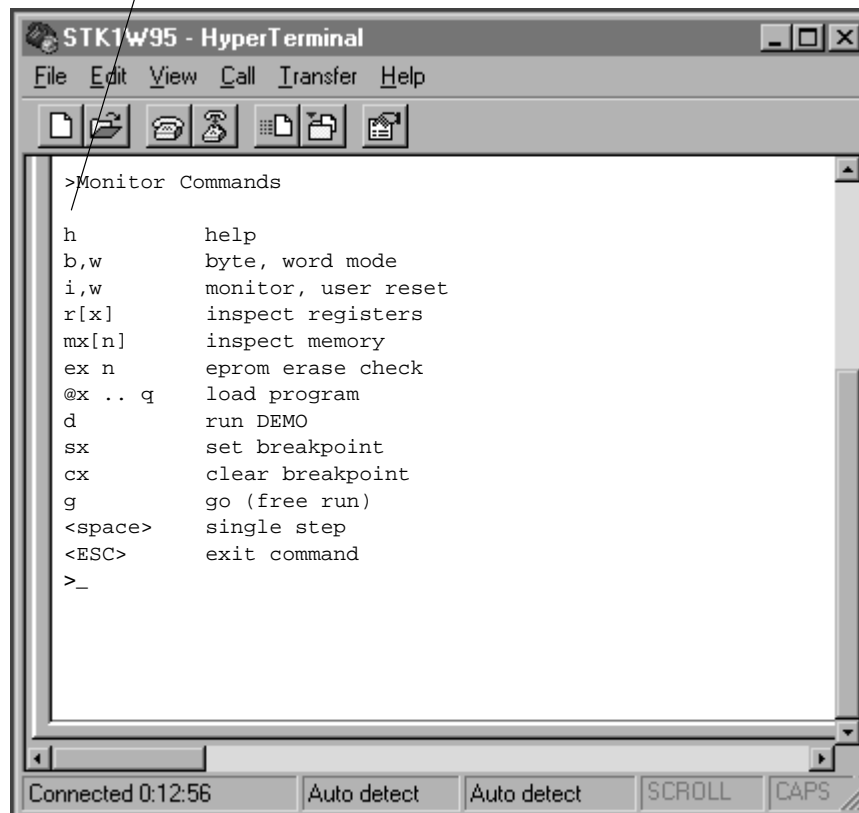

Figure 2-2. Help Command
- h The *h* command displays the Help Command screen shown in Figure 2-2 with the available commands.